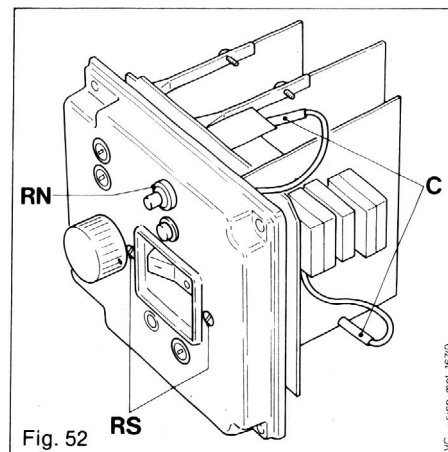

Fig. 52
#### 14.6.4 Change of flame supervision circuit board (F.S.C.B.) (Fig. 52)
Unscrew the two retaining screws (RS) as well as the two retaining screws (RS, fig. 52).